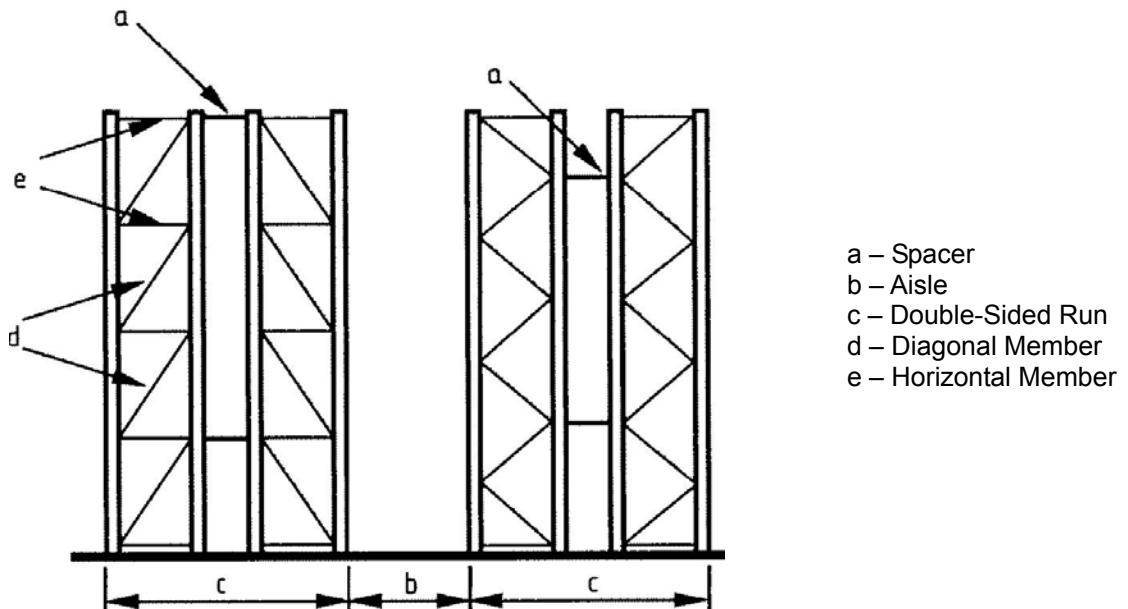

Figure 2
- Where the distance between both frame spacers exceeds 3m, we recommend placing an additional spacer every 2-3 meters. Figure 2 shows the optimal position.